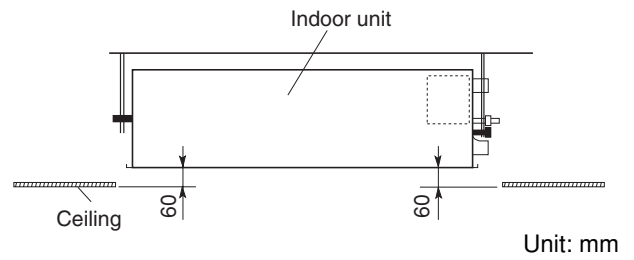

Fig. 9-5
- (1) Adjust the distance between the unit and the surface of the ceiling (60 mm) using the 2 hexagonal nuts as shown in Fig. 9-5 while following the installation gauge.